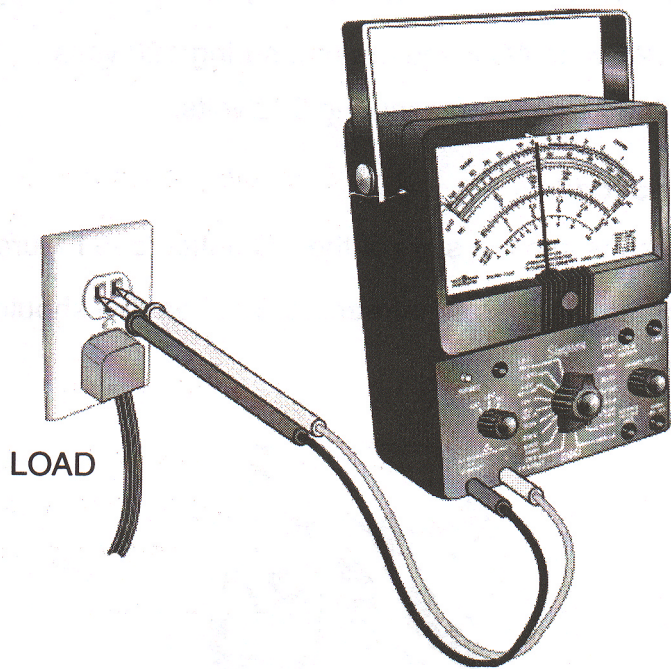

Figure 15
1. Plug the appliance into the receptacle and turn on the appliance (see Figure 15).